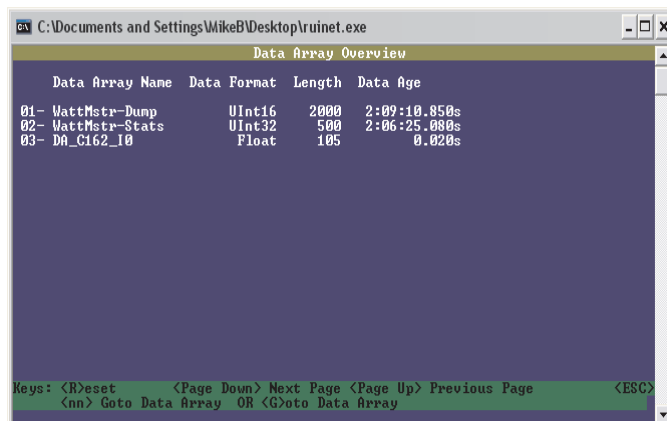

Figure 21: Data Array Overview Screen
17.) From the *RUINET Main Menu*, *type* <A> for the Data Array Overview. The *Data Array Overview Screen* will display (**Figure 21**).
18.) This screen (**Figure 21**) will verify communication to the HVAC units. Lines 1 & 2 should always be present. After a start-up period of approximately 4 minutes, you will see 1 additional line for each HVAC unit. This screen represents the PT Link II communicating with 1 HVAC unit.